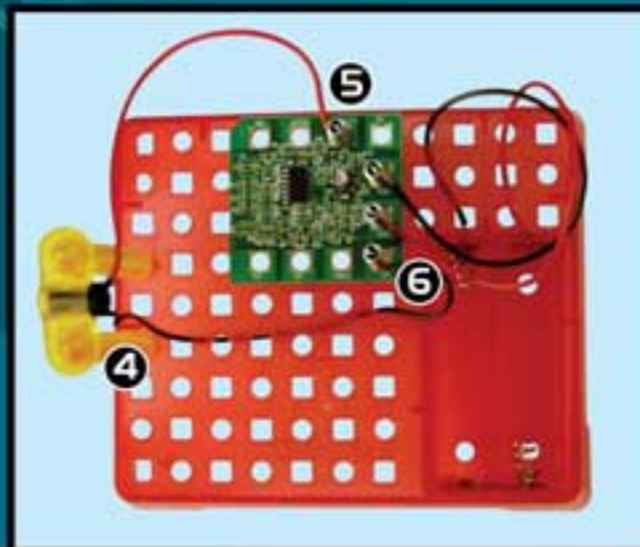

Fig. 3
- Install the photo transistor (4) with sensor stand (5) on the base plate. Insert two spring connectors and connect the photo transistor wires to holes as shown in Fig. 3: